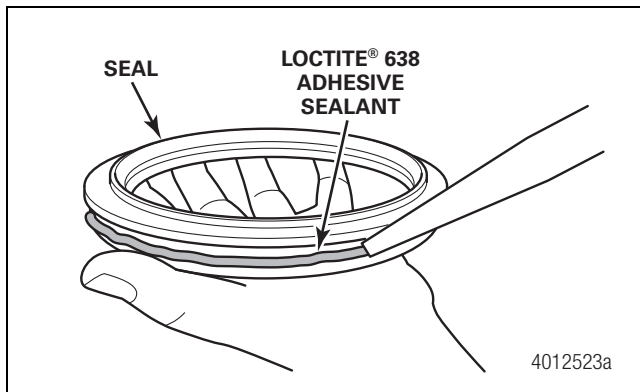

Figure 12.8
9. Prior to installing the new hub seal, apply a bead of Loctite® 638 adhesive sealant around the outside diameter of the seal as shown. Use Loctite® 680 adhesive sealant if Loctite® 638 is unavailable. Figure 12.8.